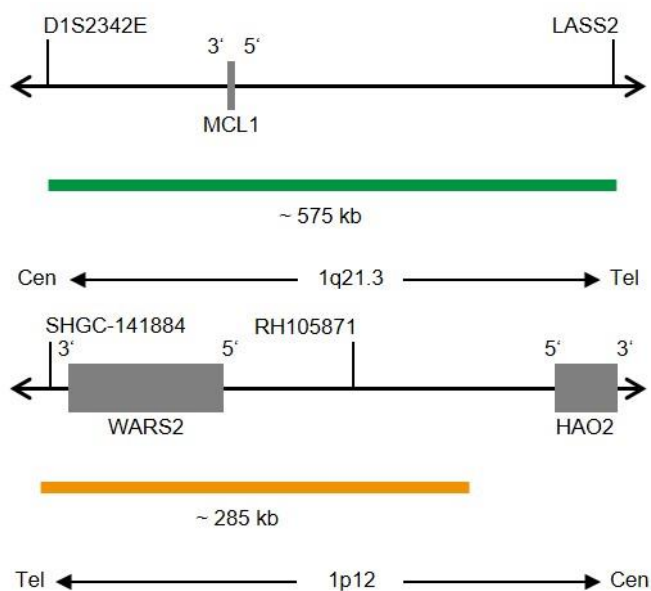

Fig. 1: Top: SPEC MCL1 Probe map, Bottom: SPEC 1p12 Probe map (not to scale)
- ZyGreen (excitation 503 nm/emission 528 nm) labeled polynucleotides (10 ng/ $\mu$ l), which target sequences mapping in 1q21.3\* (chr1:150,363,209-150,940,432) harboring the MCL1 gene region (see Fig. 1).
- ZyOrange (excitation 547 nm/emission at 572 nm) labeled polynucleotides (4.5 ng/ $\mu$ l), which target sequences mapping in 1p12\* (chr1:119,537,102-119,823,147) (see Fig. 1).